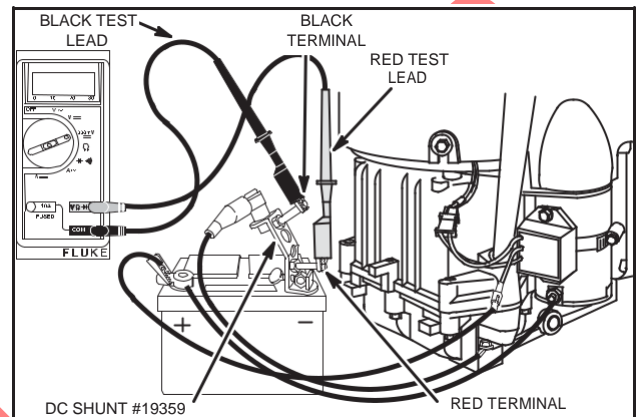

Fig. 23 – Testing Regulator-Rectifier 16 Amp System With DC Shunt
The DC Shunt **must** be installed on the **negative** (-) terminal of the battery, Fig. 23. All connections must be clean and tight for correct amperage readings. Connect stator wire harness to regulator-rectifier.
2. Insert RED test lead into **V Ω \rightarrow** receptacle in meter and insert into RED terminal on shunt, Fig. 23.